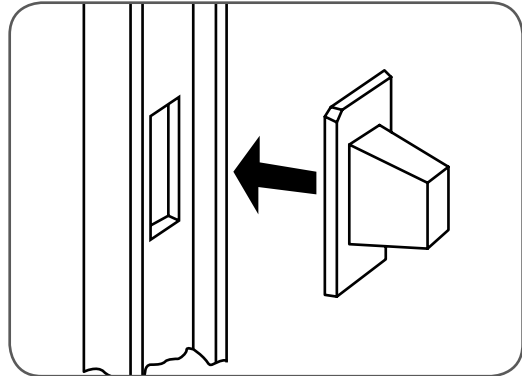

Fig.03
- b. Install the locking bar covers if there are locking bar holes in the guides. (Fig.03)